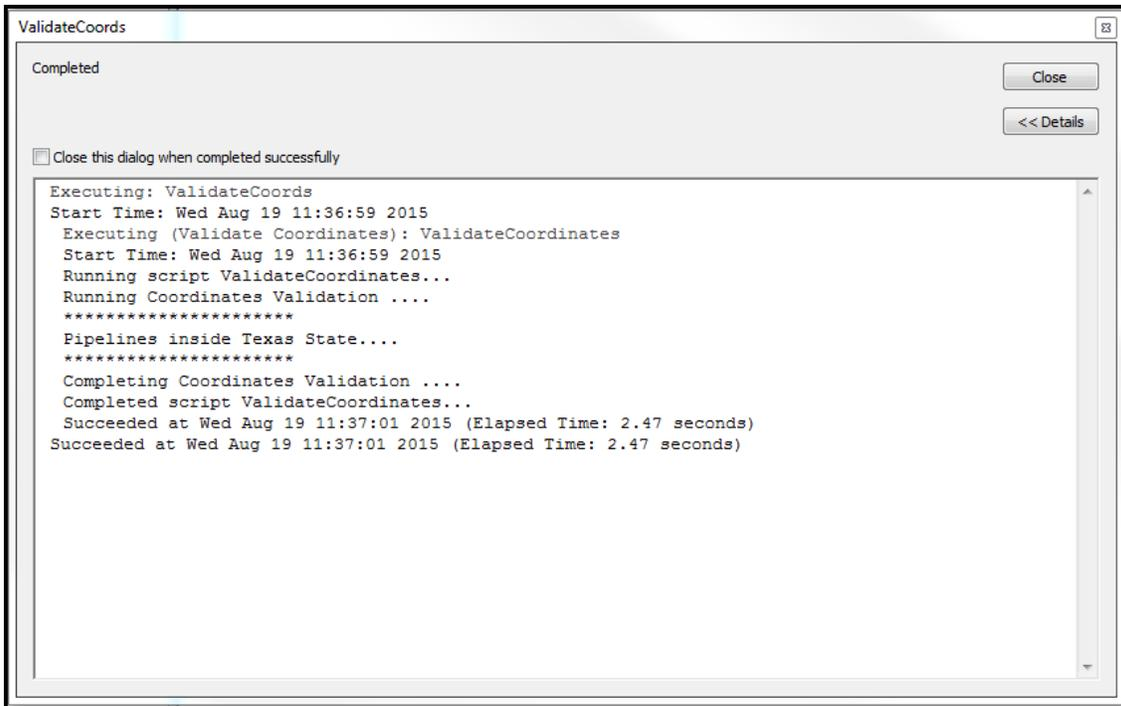

Figure 97: The Validate Coordinates Completed Dialog Box
4. If the shapefile passes validation, a dialog box indicating the validation process has completed appears, as depicted in Figure 97 below.